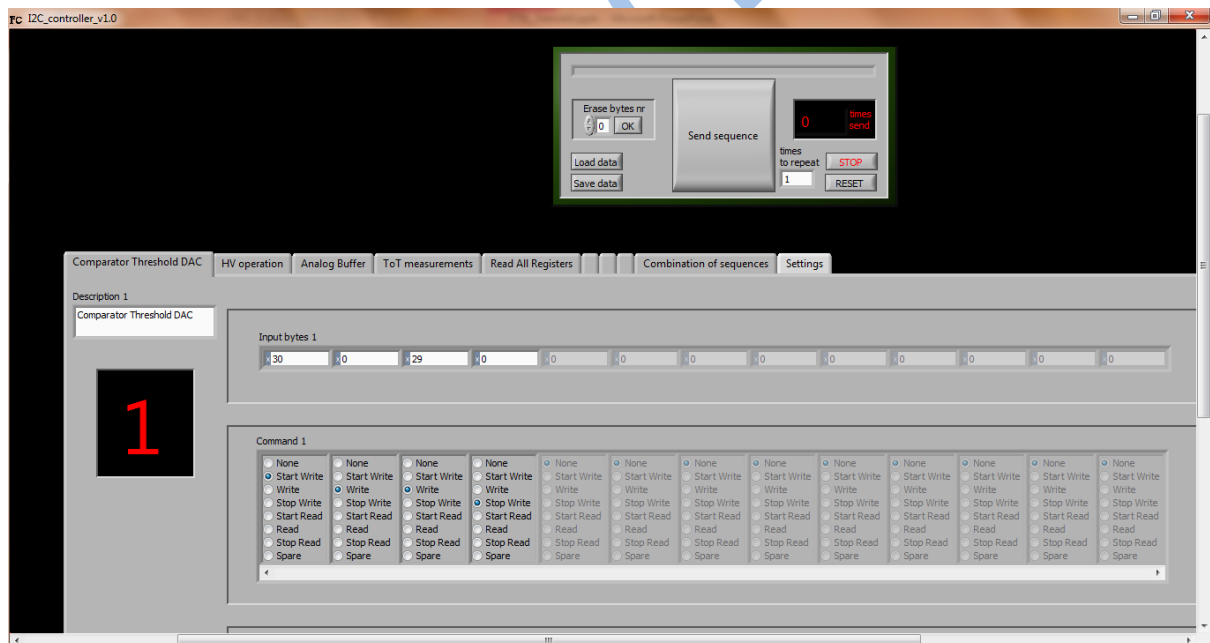

Figure 9 Labview program to set the comparator threshold value.
2. Communicate using I²C values to set the Comparator Threshold DAC register (Pointer0) to any hex value between 0x00 and 0xFF. (Figure 9)